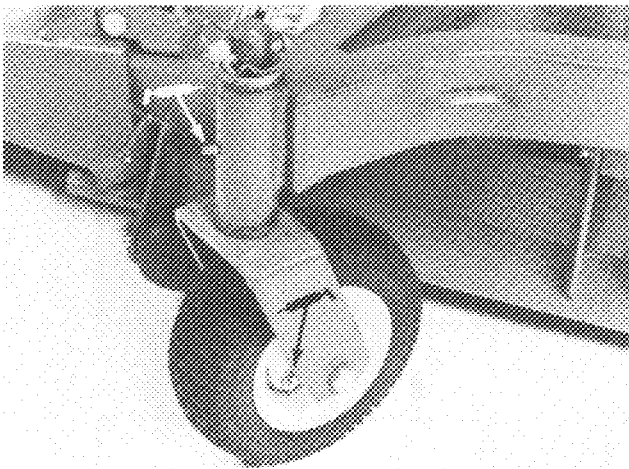
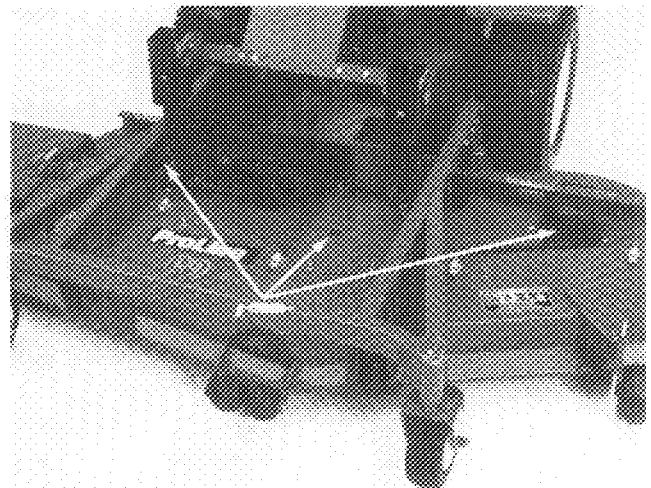

Figure 17
Figure 18
1. The cutting unit lubrication points are: castor spindle bushings (Fig. 17); castor wheel bearings (Fig. 17); and blade spindle bearings (Fig. 18).